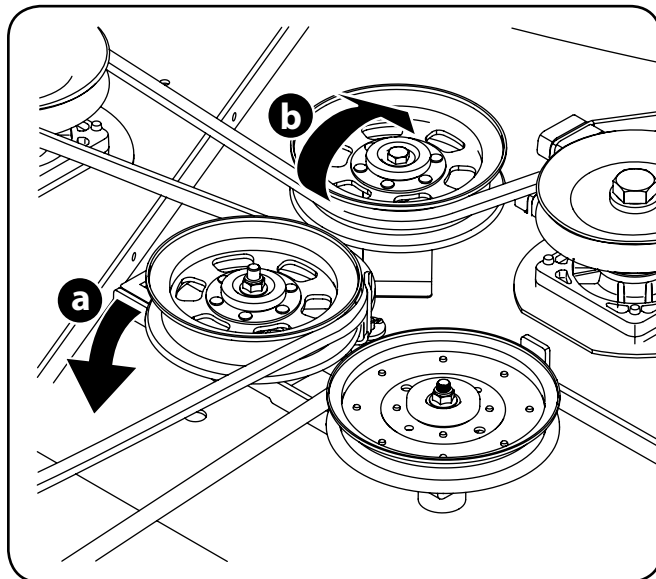

Figure 37
- b. Working from the middle of the tractor, pivot the idler bracket and movable idler pulley rearward away from the backside of the 'V' belt (a) just far enough to lift the belt up and over the idler pulley (b). See Figure 37.